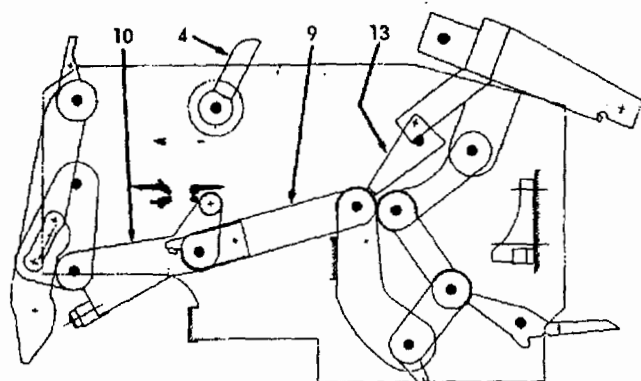

Figure 5 - Driving cranks (4) have rotated free, links (9) and (10) are overtoggle, springs fully extended ready for close when closing latch (13) is released.
Figure 9 - Springs are recharged ready for next close operation. Breaker has just been tripped. Trip latch (27) has released latch roll (14) allowing it to rotate. Links (20) and (21) drop almost vertically until stop (59) forces toggle roll (15) back to break the link 20-21 toggle and allowing the 4-bar linkage to return to normal position as shown in figure 5.